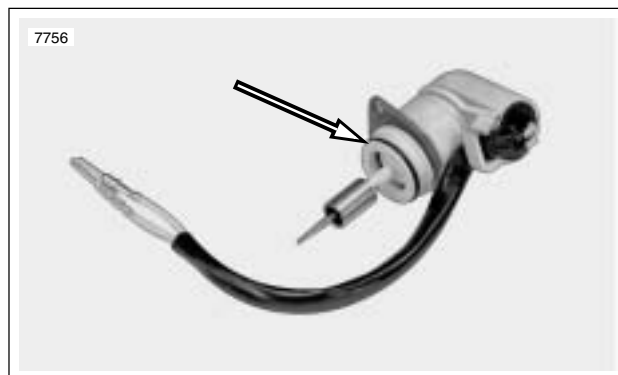

**Figure 4-19. Location of Auto-Enrichener and Throttle Position Sensor**
6. See Figure 4-19. Remove Phillips screw (with lock washer) to release stay plate on auto-enrichener from carburetor housing. Pull enrichener from carburetor bore.